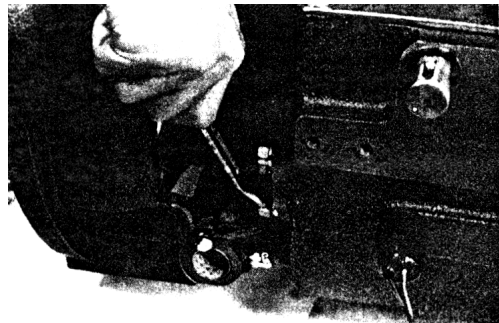

Fig. 3-13
(1) First remove the mounting bolts on the shaft arm positioned at the rear end of the side shift rod (Fig. 3-13).